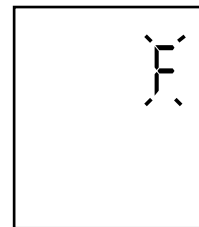

Figure 11
1. In the Units menu, the previously selected temperature units flash (F or C). See Fig. 11. Press the Up or Down button to change units.